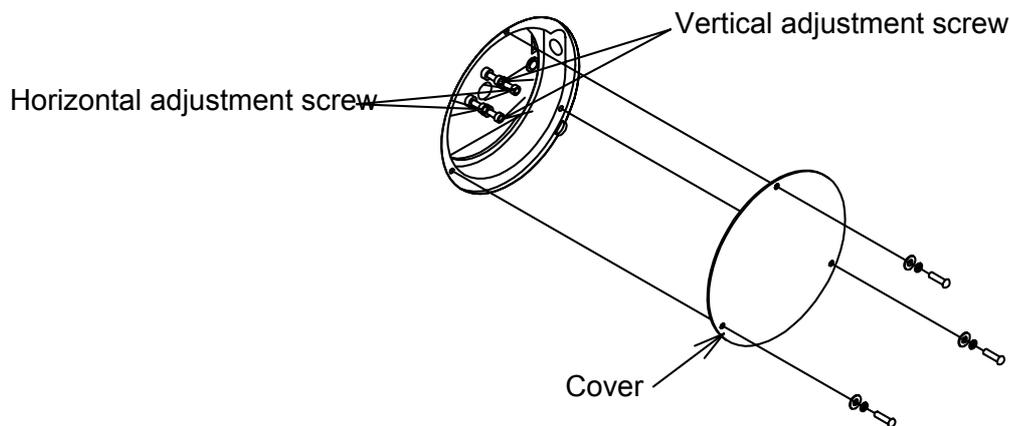

Fig. 4.4 Mirror adjustment screw
- (11) Remove the cover from the M_0 and M_1 mirrors. The adjustment screw shown in Fig. 4.4 will be visible.